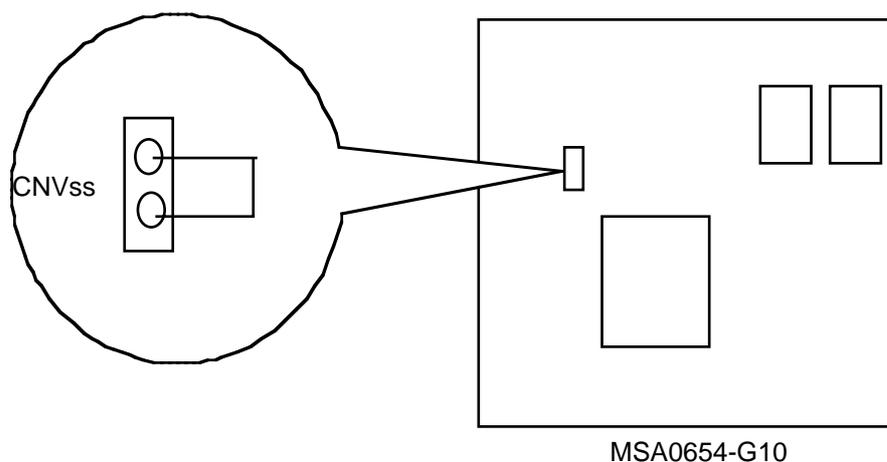

Figure 7-1 Setting MSA0654-G10
- (1) Short the CNVSS pin (shown below) on the MSA0654-G10. (Figure 7-1)
- (2) Connect the MSA0652G01 or G02 and MSA0654-G10.
- (3) Set connect oscillator of 10MHz (MSA0652-G01) , 16MHz (MSA0652-G02).
- (4) Turn on the power to the MSA0652 G01 or G02.
- (5) Start FlashWriterS/W include with the MSA0652.
- (6) Write the corrected the monitor program to the MSA0652G01 or G02 with FlashWriter. 1)
- (7) Turn off the power to the MSA0652G01 or G02.
- (8) Remove the MSA0652 from the MSA0654-G10. 2)
- 2) When use a expand I/O board for MSA0654-G10 , open the CNVss pin at Figure 7-1.